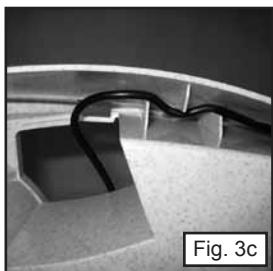
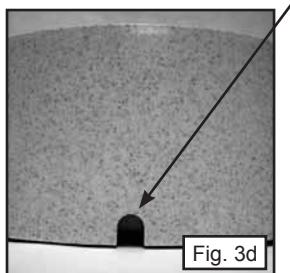

Fig. 3c
Fig. 3d
- 2) Thread the plug through the opening next to the pump. Under the arch you can tuck the cord into "cord channels" (Fig. 3c), then move the cord along the back of the fountain to the "cord pass-through." (Fig. 3d) Use this pass-through to keep the cord from showing.